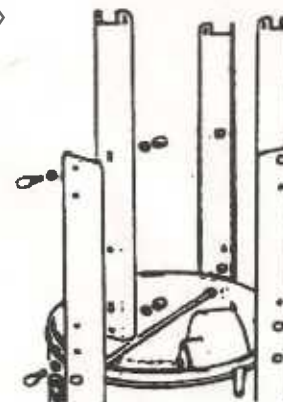

Fig.2.
3. Assemble three lower legs to upper legs as shown in Fig.2 using 6 screws, 6 nuts and 12 washers.